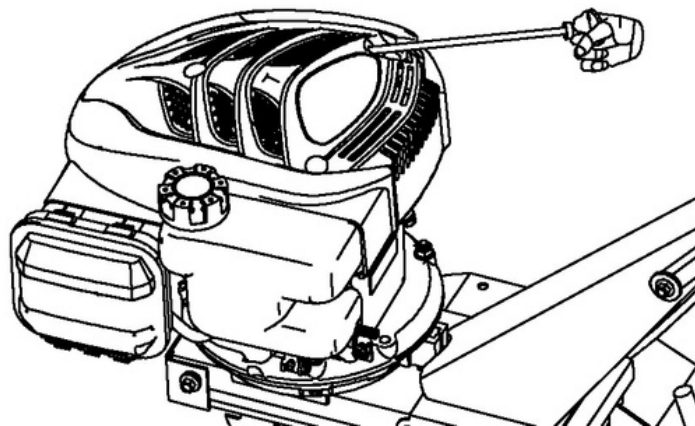

Figure14
2. Slightly pull the starter grip until you feel a resistance, and then pull it out fast with a big force, which is shown as Figure 14.